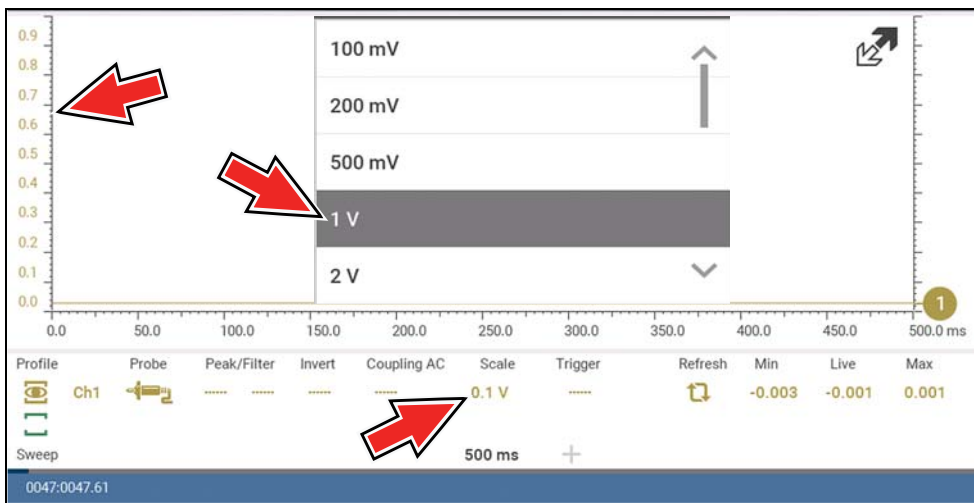

Figure 9-33
**Example (Figure 9-33):** If the vertical scale is set to 1V, the value displayed is 0.1V.